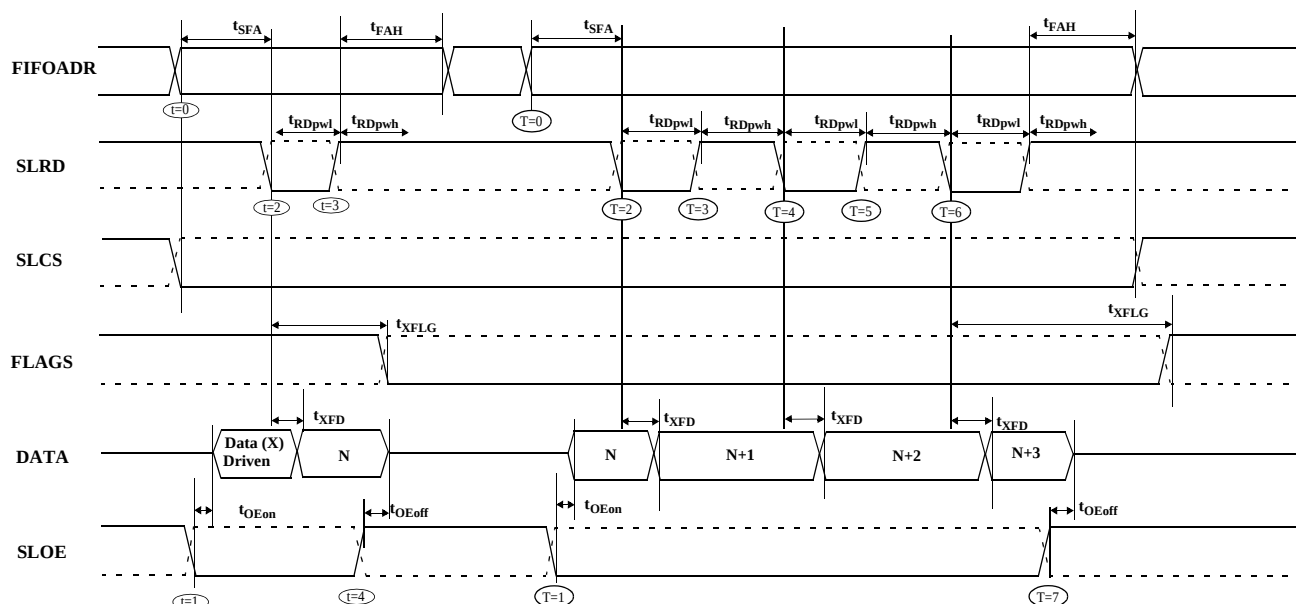

Figure 9-18. Slave FIFO Asynchronous Read Sequence and Timing Diagram
Figure 9-18 diagrams the timing relationship of the SLAVE FIFO signals during an asynchronous FIFO read. It shows a single read followed by a burst read.
- The data that will be driven, after asserting SLRD, is the updated data from the FIFO. This data is valid after a propagation delay of t_{XFD} from the activating edge of SLRD. In Figure 9-18, data N is the first valid data read from the FIFO. For data to appear on the data bus during the read cycle (i.e. SLRD is asserted), SLOE MUST be in an asserted state. SLRD and SLOE can also be tied together.